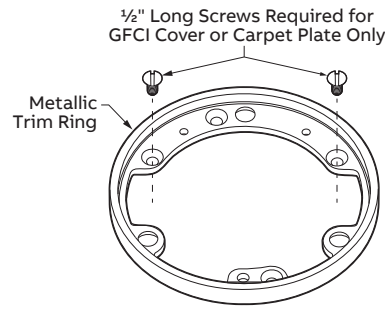

Figure A.3 - 68PFL Trim Ring (Sold separately)
- #8-32 x 1/2" Screws (used only for GFCI cover or carpet plate), See Figure A.3 (not included) - Quantity = 2